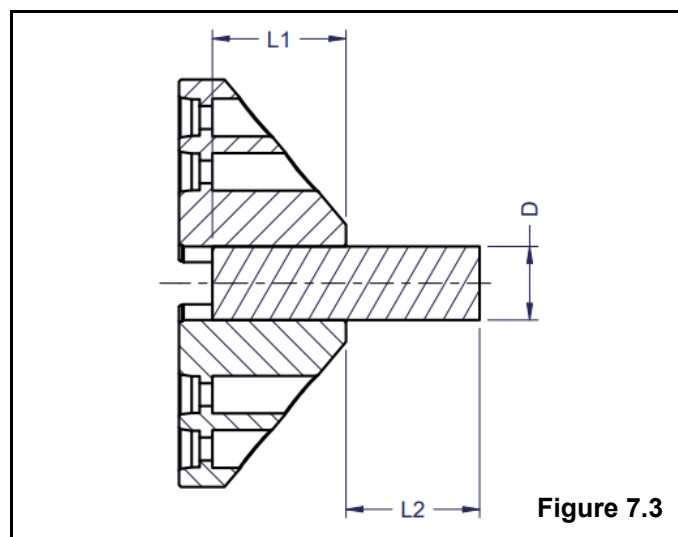

Figure 7.3
7. Workpieces with no shoulder support must be clamped on a length twice their diameter. Refer to Figure 7.3.
8. Long workpieces should not extend beyond the face of the top jaws more than one and one half times the length being clamped, unless an end support is used. Refer to Figure 7.3.